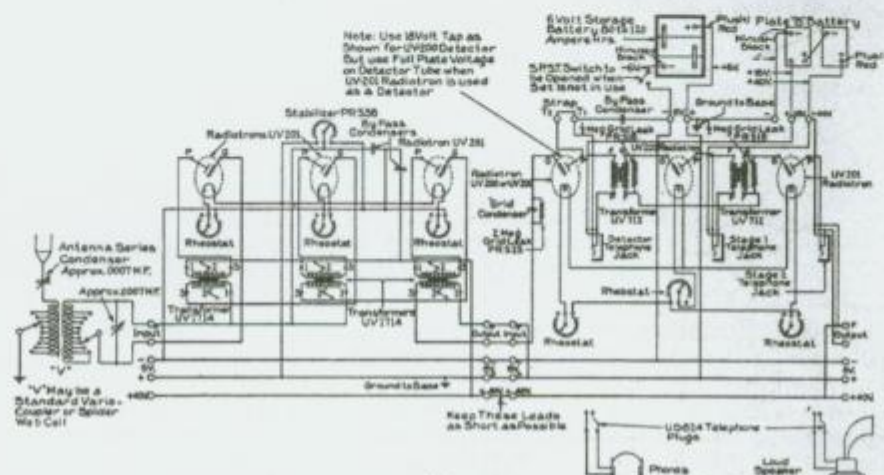

Fig. 3
- (2) A two-circuit tuner (Fig. 3).
(B) If a two-circuit tuner is used, the apparatus should be wired in accordance with Fig. 3. The following apparatus will be required:
The set is now ready for tuning. If the AA-1520 AMPLIFIER is used with an outdoor antenna in accordance with Fig. 3 or 4, the desired signals should be tuned in by the usual means. If the set is used in connection with an indoor loop (Fig. 2), the desired station can be tuned in by means of the variable condenser connected directly across the terminals of the loop.